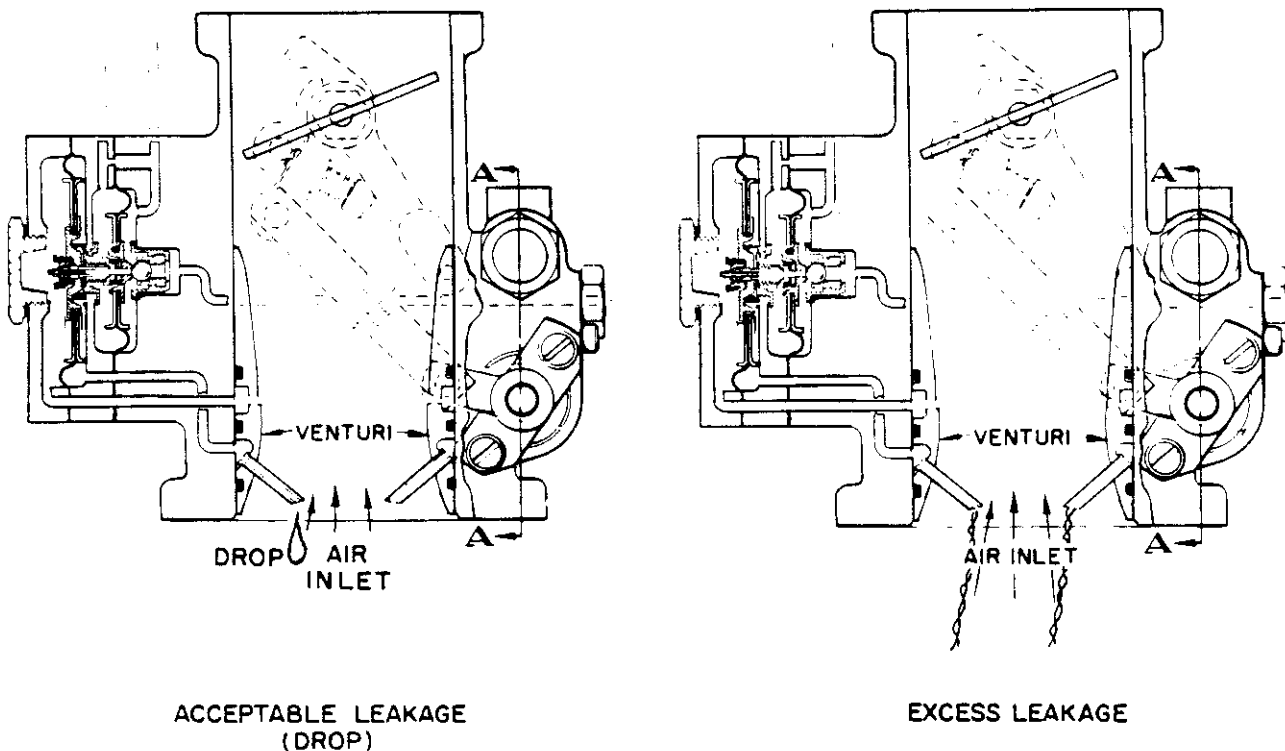

Figure 4. Leakage Limits
5. Turn off boost pump and reconnect fuel line. If excess leakage was noted, remove servo unit for repair, see Figure 4. Excess leakage is identified as fuel running out the impact tubes or venturi (on units using the bullet type venturi).